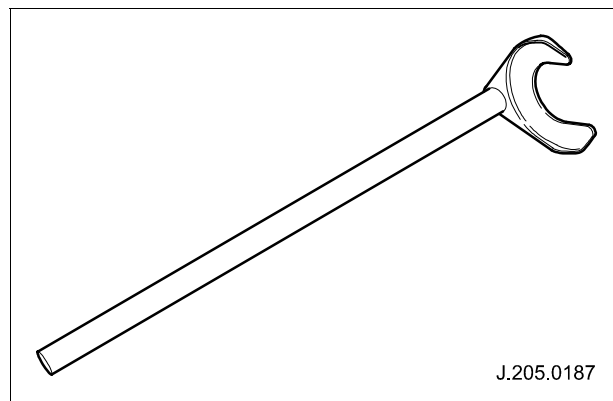

Fig. 1
- 1 Fit components 204-226 and 100-012-02 together to form tool. (See Fig. 1)